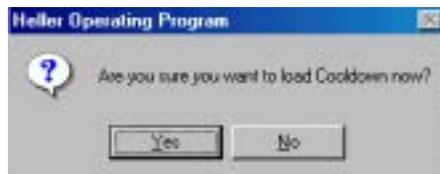

Figure 9
- b. Cooldown mode will terminate the oven process in an orderly manner turning off the power to the heaters while leaving the conveyor and blowers operating until all the temperature channels are below 95 degrees centigrade. From the main toolbar click the Cooldown icon or from the menu bar Mode then Cooldown, then confirm to load Cooldown **See Figure 9**.